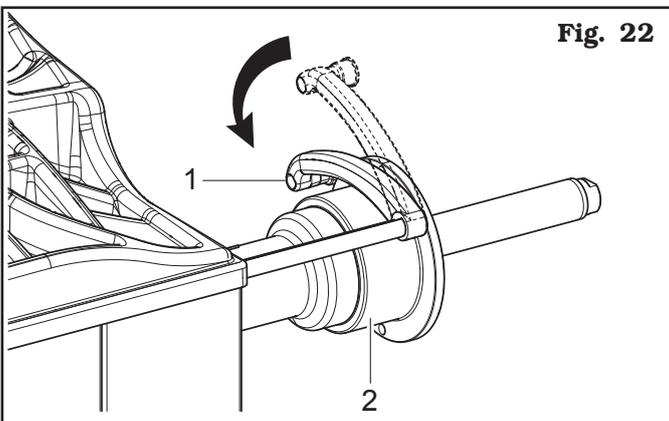

Fig. 22
REPEATEDLY BRINGING THE CALIPER ARM (FIG. 22 REF. 1) IN CONTACT WITH THE MANDREL (FIG. 22 REF. 2), THE PROGRAM WILL CYCLE FROM "STATIC" TO "STATIC 1" TO "2 STATIC" THEN RETURNING TO THE BEGINNING.
REPEATEDLY BRINGING THE CALIPER ARM (FIG. 22 REF. 1) IN CONTACT WITH THE MANDREL (FIG. 22 REF. 2), THE PROGRAM WILL CYCLE FROM "ALU-S" TO "ALU-S1" TO "ALU-S2" THEN RETURNING TO THE BEGINNING.
FIRST MOVEMENT: to pass from static (STAT) to ST1 (STATIC 1) in automatic mode, lean the gauge arm (Fig. 22 ref. 1) against the bell (Fig. 22 ref. 2).
SECOND MOVEMENT: lift and lower again the gauge arm to select ST2 (STATIC 2) mode (see **Fig. 22**). Maintain the position for a few seconds. The measurement will have been acquired when the detected rim diameter is displayed.
To pass from static ALU-S to ALU-S1 in automatic mode, lean the gauge arm (**Fig. 22 ref. 1**) against the bell (**Fig. 22 ref. 2**).
Lift and lower again the gauge arm to select ALU-S2 mode (see **Fig. 22**).